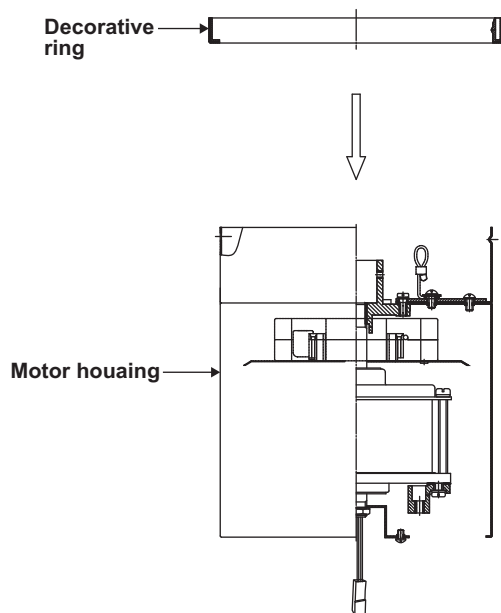

Figure 4
1. Slide the decorative ring down and through the motor housing. (Fig. 4)